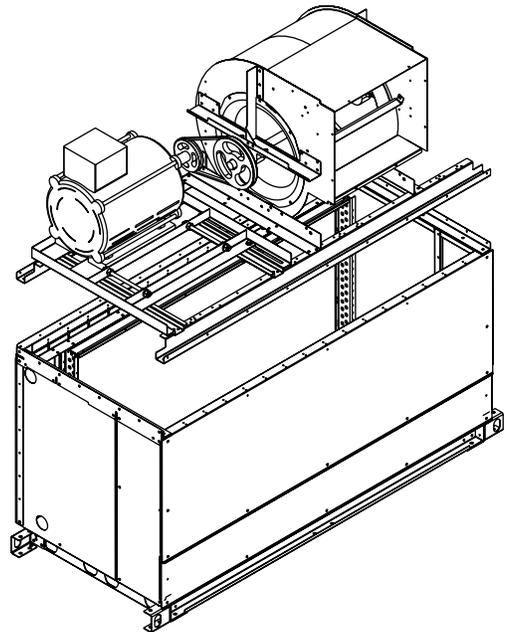

Fig. 92 – Remove Fan
3. Remove the fan by removing the 4 screws on the corner of the fan sled. On larger units the fan sled may be extremely heavy. Affix appropriate rigging to remove the required components, noting on a diagram where each component is attached. See Fig. 92.